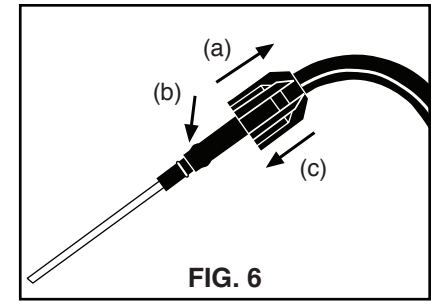

FIG. 6
- Step 2. Hose at tank. (FIG. 6)